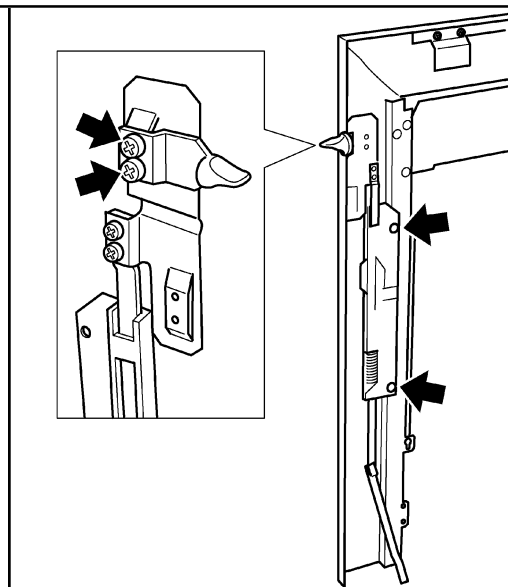

Figure 45. Control slide and button fixings (The slider design may differ from that shown)
2. Detach the slide unit by removing two screws securing the plastic slide mechanism to the rear of the fascia (See figure 45).
3. Detach the slide button by removing two screws (See figure 45).